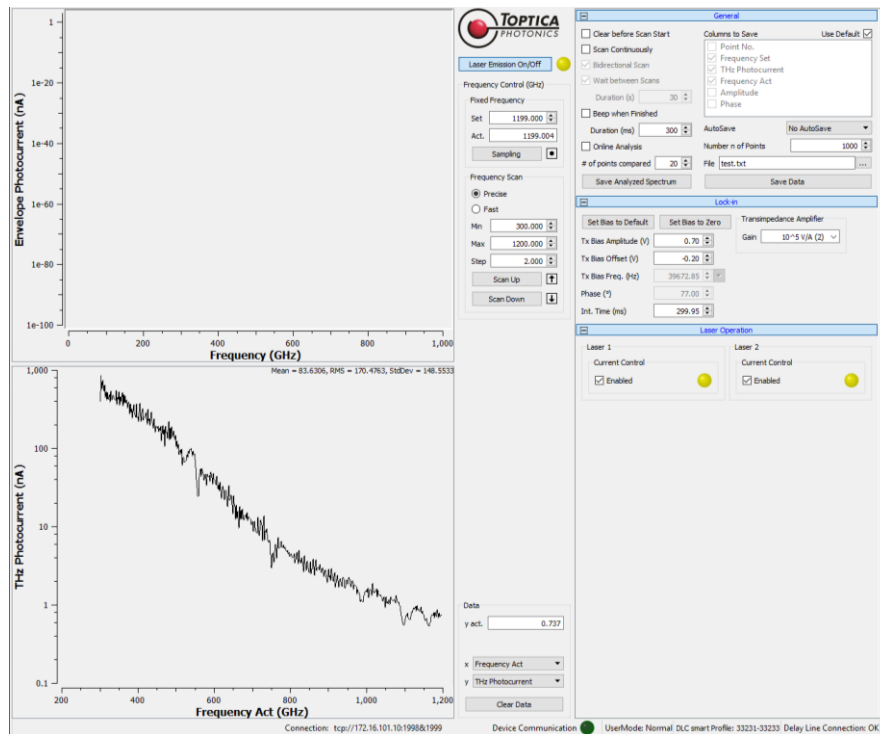

Figure 2: Electrical connections
8. Note that the data representation in the software changes. The lower window in the main menu displays the measured raw data, which already represents the terahertz power spectrum. The online analysis feature in the upper graph is not necessary and can be disabled (refer to Figure 2).